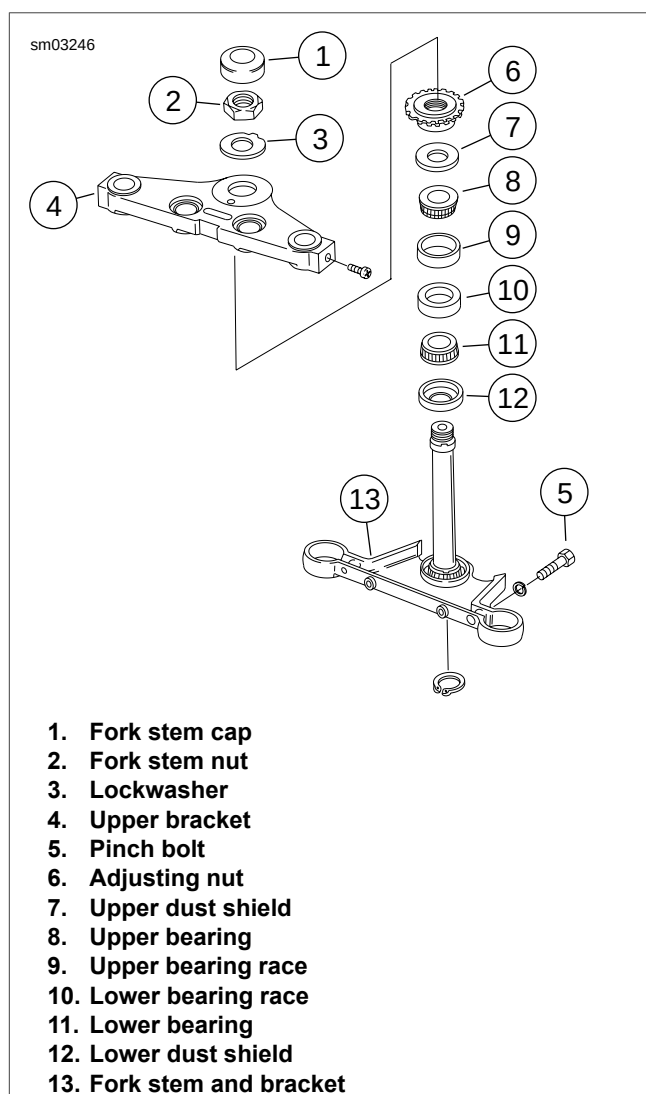

Figure 2-77. Steering Head: FXST
3. See Figure 2-77. Remove the brake hose bracket from the bottom of the fork stem and bracket (13).
4. Remove the fork stem cap (1). Remove the fork stem nut (2) with the handlebar and upper bracket (4) as an assembly.
5. Remove the adjusting nut (6) and pull the fork stem and bracket (13) out of the steering head.
6. Remove the upper dust shield (7) and upper bearing (8) from steering head.
1. See Figure 2-77. Insert the fork stem bracket assembly (13) (with lower dust shield and bearing) into the frame steering head and install the upper bearing (8) and dust shield (7). Secure with the adjusting nut (6).
2. Install the upper bracket (4), a **new** lockwasher (3), and fork stem nut (2). Be sure pin on lockwasher is engaged in upper bracket hole.